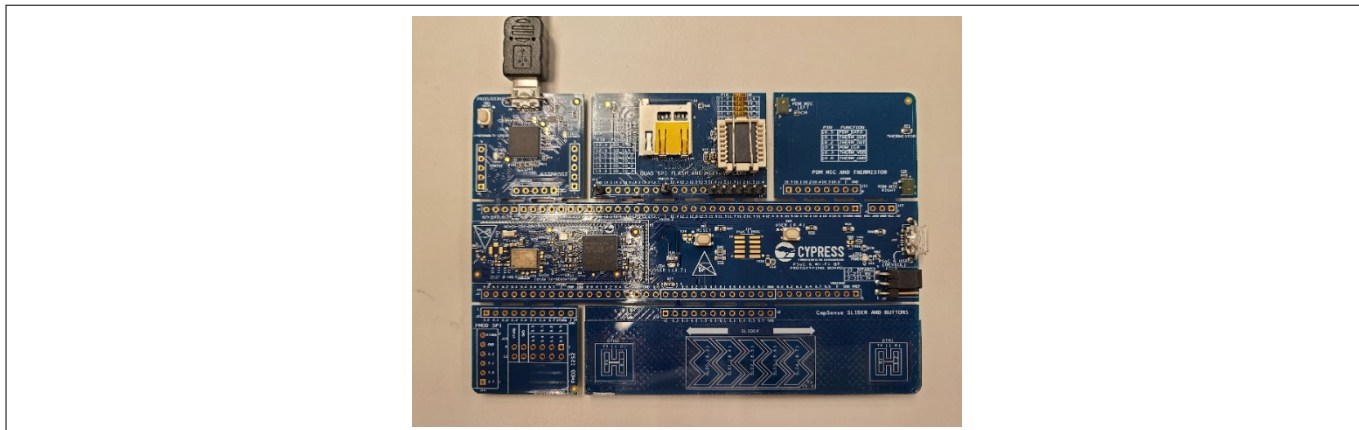
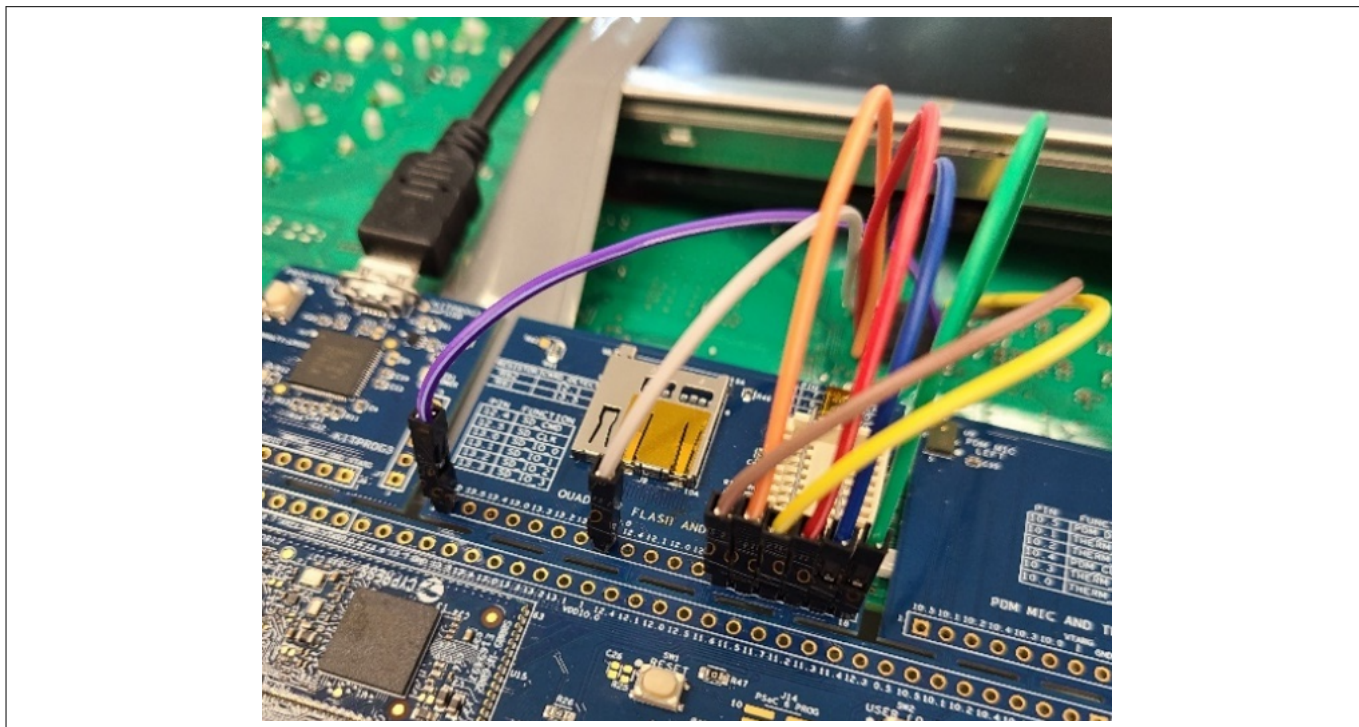

Figure 5 PSoC™ 6 MCU board with the socket attached
Figure 6 External flash memory connected with a pin header
- To test any flash device in SOIC-16 package, replace the flash chip in the socket as shown in Figure 5
- To test flash devices in other package types or to test the flash device that is attached to another board like shown in Figure 6, use the pin header connector. In this case, keep the socket empty because the socket flash signal and external signal through pin header can be overlapped
Figure 5 and Figure 6 show the boards with the hardware modifications:
- Figure 5 shows the flash device in the socket being tested
- Figure 6 shows an external flash device on another board being tested. Note that the jumpers are connected to the pin header while the socket is empty